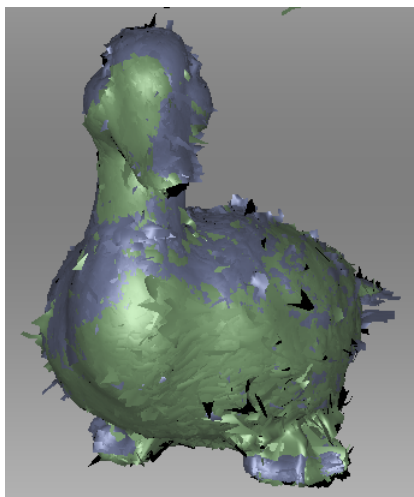

Figure 85: “Drag” alignment result
3. To confirm the alignment, release the mouse button(s) and the **Shift** key, then click *Apply*. Note carefully that any scans you are registering won’t automatically move to the registered set ● (see Figure 85). You can do so manually as the Changing Object Status describes.